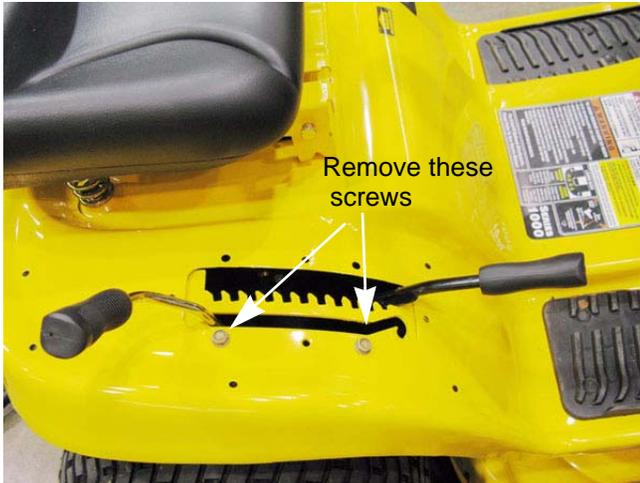

Figure 8.40
3. Remove the two screws that secure the deck lift arm indexing plate using a 1/2" wrench. See Figure 8.40.